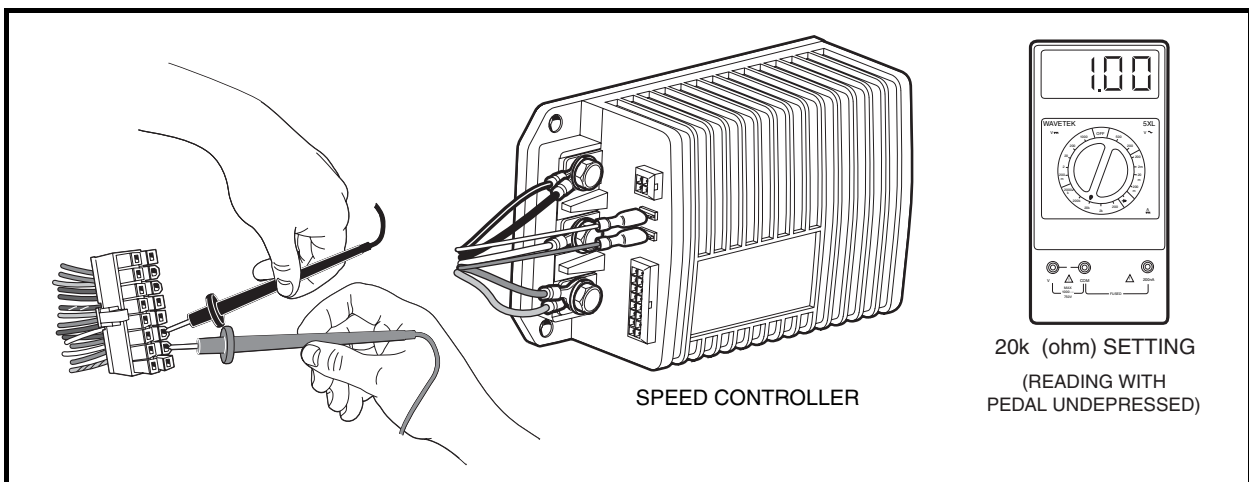

Figure 11-13 Pins 1, 2, and 3 Test
4. Set a multimeter to 20k ohms. Insert the red (+) probe of the multimeter into pin 2 (yellow wire) of the 16-pin connector. **See following CAUTION.** Insert the black (–) probe into pin 3 (purple/white wire) of the 16-pin connector (**Figure 11-13, Page 11-27**).